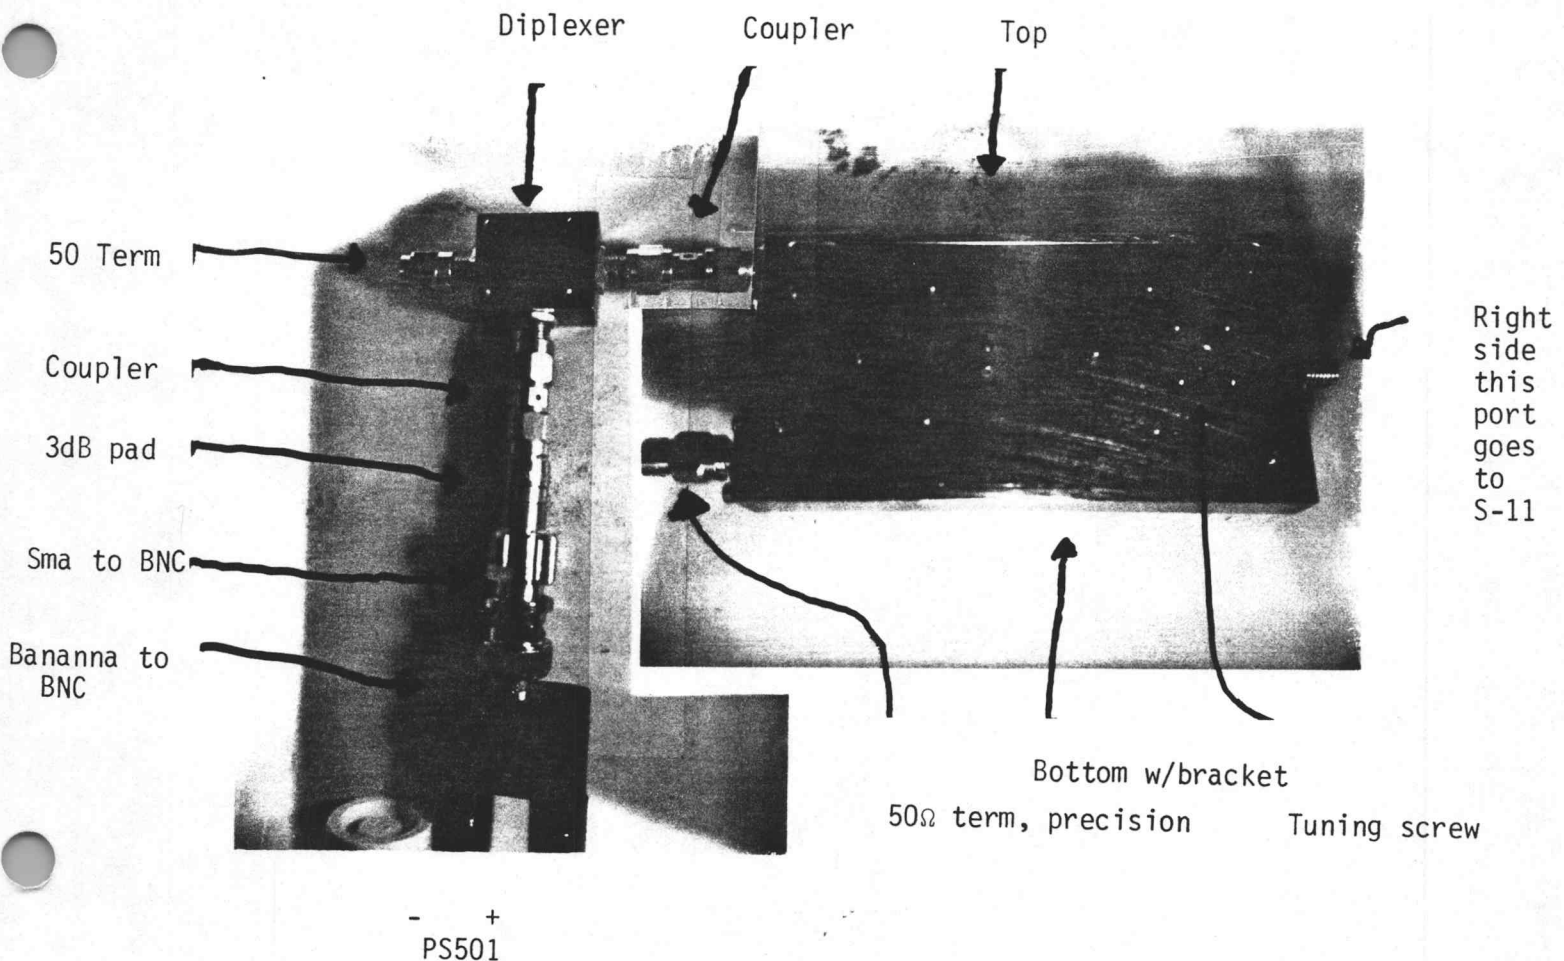
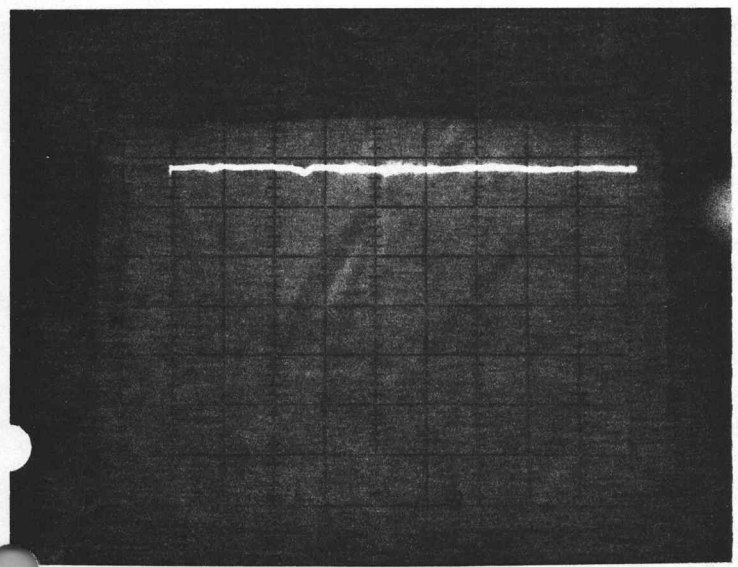

FIGURE 1
Fig. 2
- A. 1. Connect a  $50\Omega$  term to bottom port according to Fig. 1. Also connect the diplexer assy. to the top port. Also shown in Fig. 1
2. Once the 1st converter looks like Fig. 1 insert port on right side into S-11 port the display should look like Fig. 2. Now turn current limit pot CW until light goes off and adjust volts for a display like that of Fig. 3. Adjust for the best return loss. Then with a tweaker, turn tuning screw CW again for the best return loss.